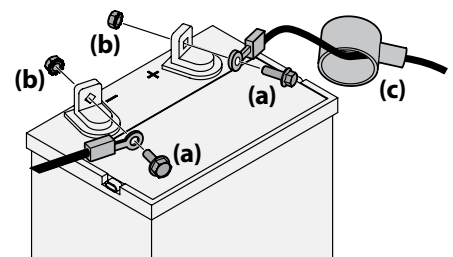

Figure 2-2
1. Remove the plastic cover, if present, from the positive battery terminal and attach the red cable to the positive battery terminal (+) with the bolt (a) and hex nut (b). See Figure 2-2.
- Remove the plastic cover, if present, from the negative battery terminal and attach the black cable to the negative battery terminal (-) with the bolt (a) and hex nut (b). See Figure 2-2.